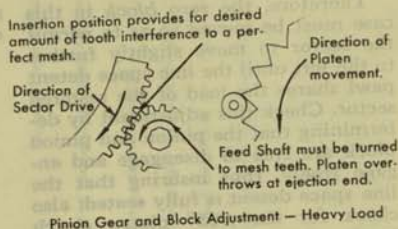

Figure 26
3. Mesh the pinion gear and pinion block and slide them on the octagonal feed shaft together in such a position so as to provide for a slightly advanced relationship of the pinion gear teeth to the sector teeth (see Figure 26). This can readily be observed as the pinion gear is moved in on the feed shaft against the sector. Since the sector has been driven to its extreme forward position in order to mesh these two gears, it is necessary to turn the feed shaft counterclockwise, thus producing an overthrow of the platen detent. The amount of this overthrow may be varied within limitations by increasing the above advanced relationship (see Figure 27).
- 1 With Sector Advanced to End of Stroke (upper dead center), change relation of pinion and sector gear teeth (See Figure 26) to obtain the following conditions: